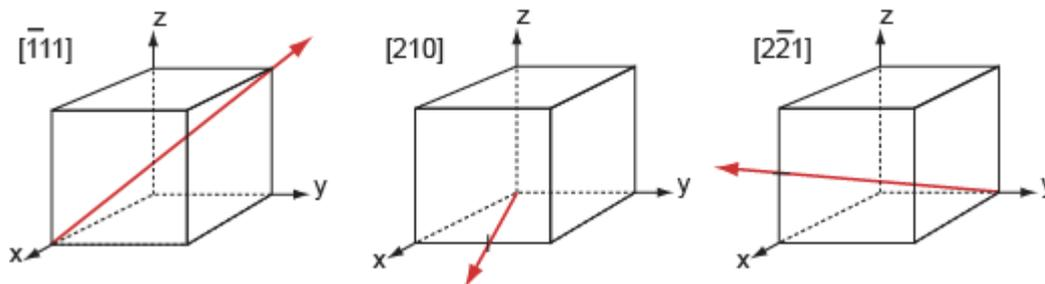

Figure C32. The directions of exercise E24
**E24.** Figure C32 shows the directions..